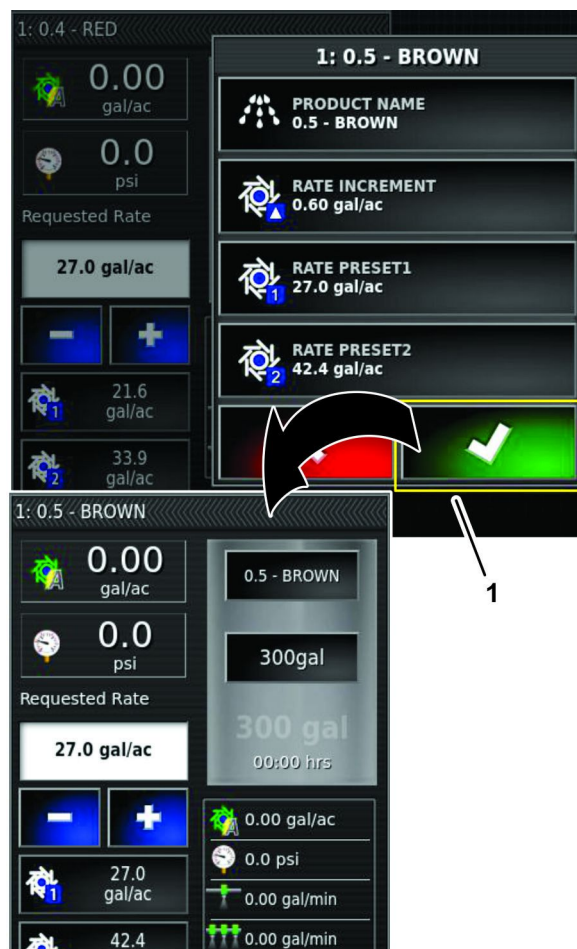

Figure 158
- D. In the product configuration window, press the confirm icon (Figure 158).